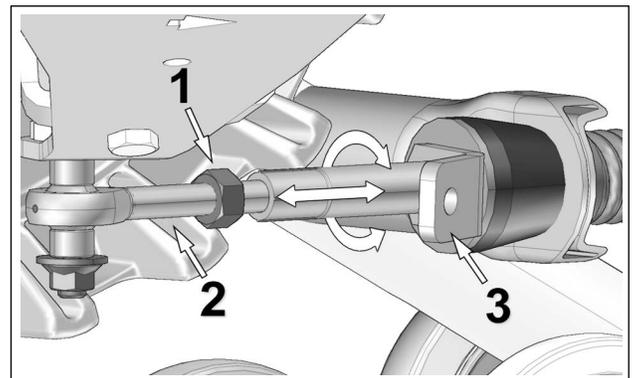

Figure 5
- Loosen jam nut (1). Adjust length of rod end (2) by rotating the steering limiter support plate on (3) the stabilizing arm. Use a 30 mm wrench to rotate support plate and obtain 270 mm above the ground. Refer to Figure 5.
*NOTE:* The stabilizing arms on front Track Systems incorporate a steering limiter support plate (3) that is bent. This plate should be positioned inwards, towards the vehicle.